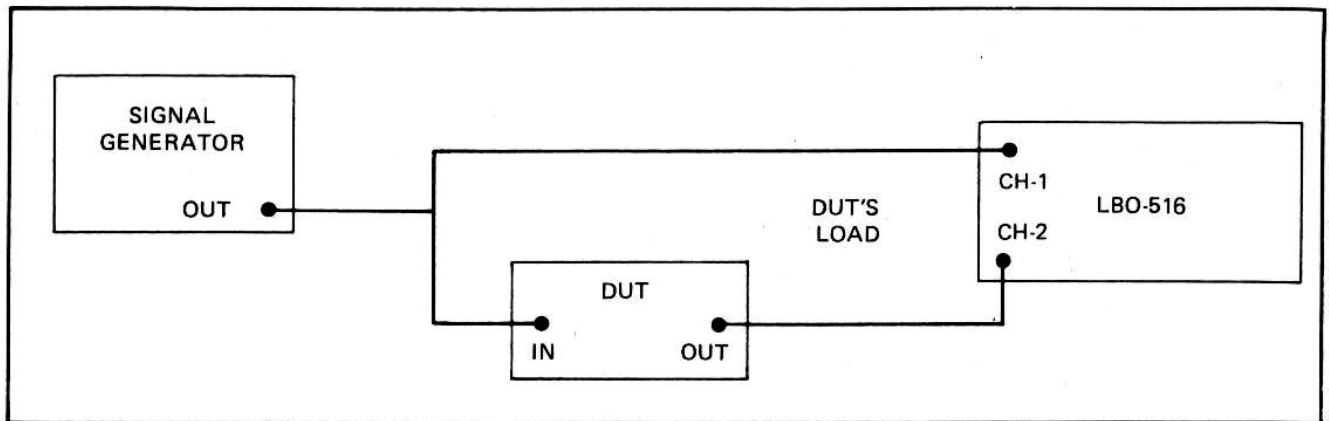

Figure 2-22.
measuring phase shift of signal-processing devices, the test setup shown in Figure 2-22 can be used.
1. Connect the output of the signal generator (of frequency suitable to the device under test) to the CH-1 IN connector (14) and the input of the device under test (DUT).
2. Connect the CH-2 IN connector (15) to the output of the device or its load (see Figure 2-22)
4. If the DUT has reversed the phase, press the CH-2 INV pushbutton (19).
5. Superimpose the two traces with the vertical POSITION controls (17) and (18), and use the VARIABLE VOLTS/DIV control (11) of the larger trace to achieve the best trace match.